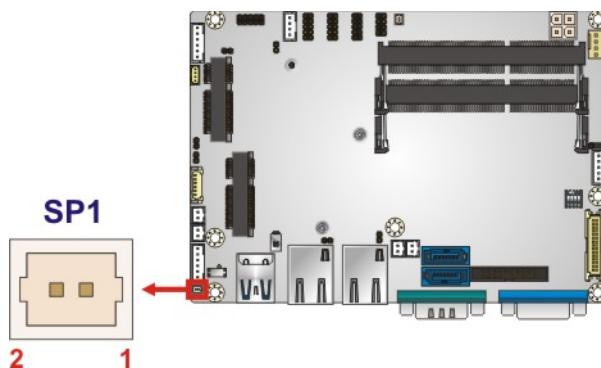

Figure 3-6: Buzzer Connector Location
**CN Location:** See Figure 3-6